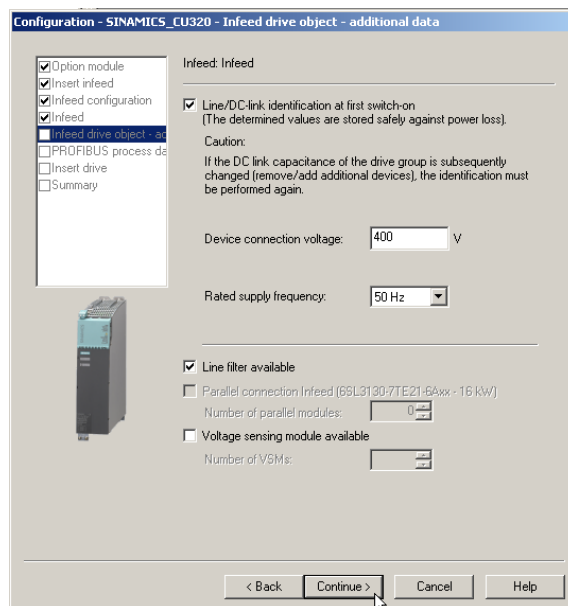

Fig. 3-19 Infeed: Additional data
6. Click **Continue >** to select additional data for the Active Line Module (infeed) (see Fig. 3-19).